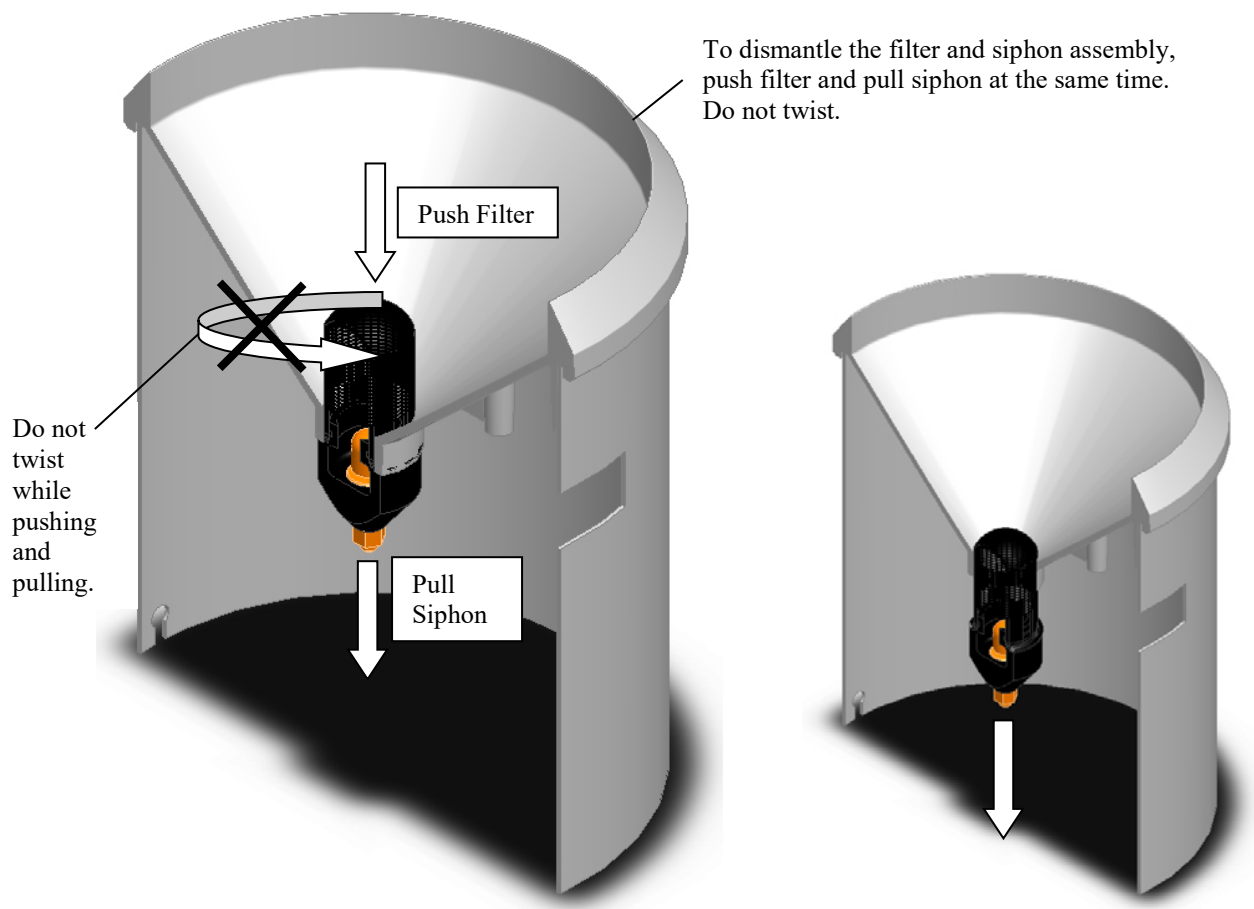

FIGURE 9-2. Dismantling the Filter/Siphon Assembly
2. Separate the filter/siphon assembly from the funnel by pushing the filter while pulling the siphon (see FIGURE 9-2).